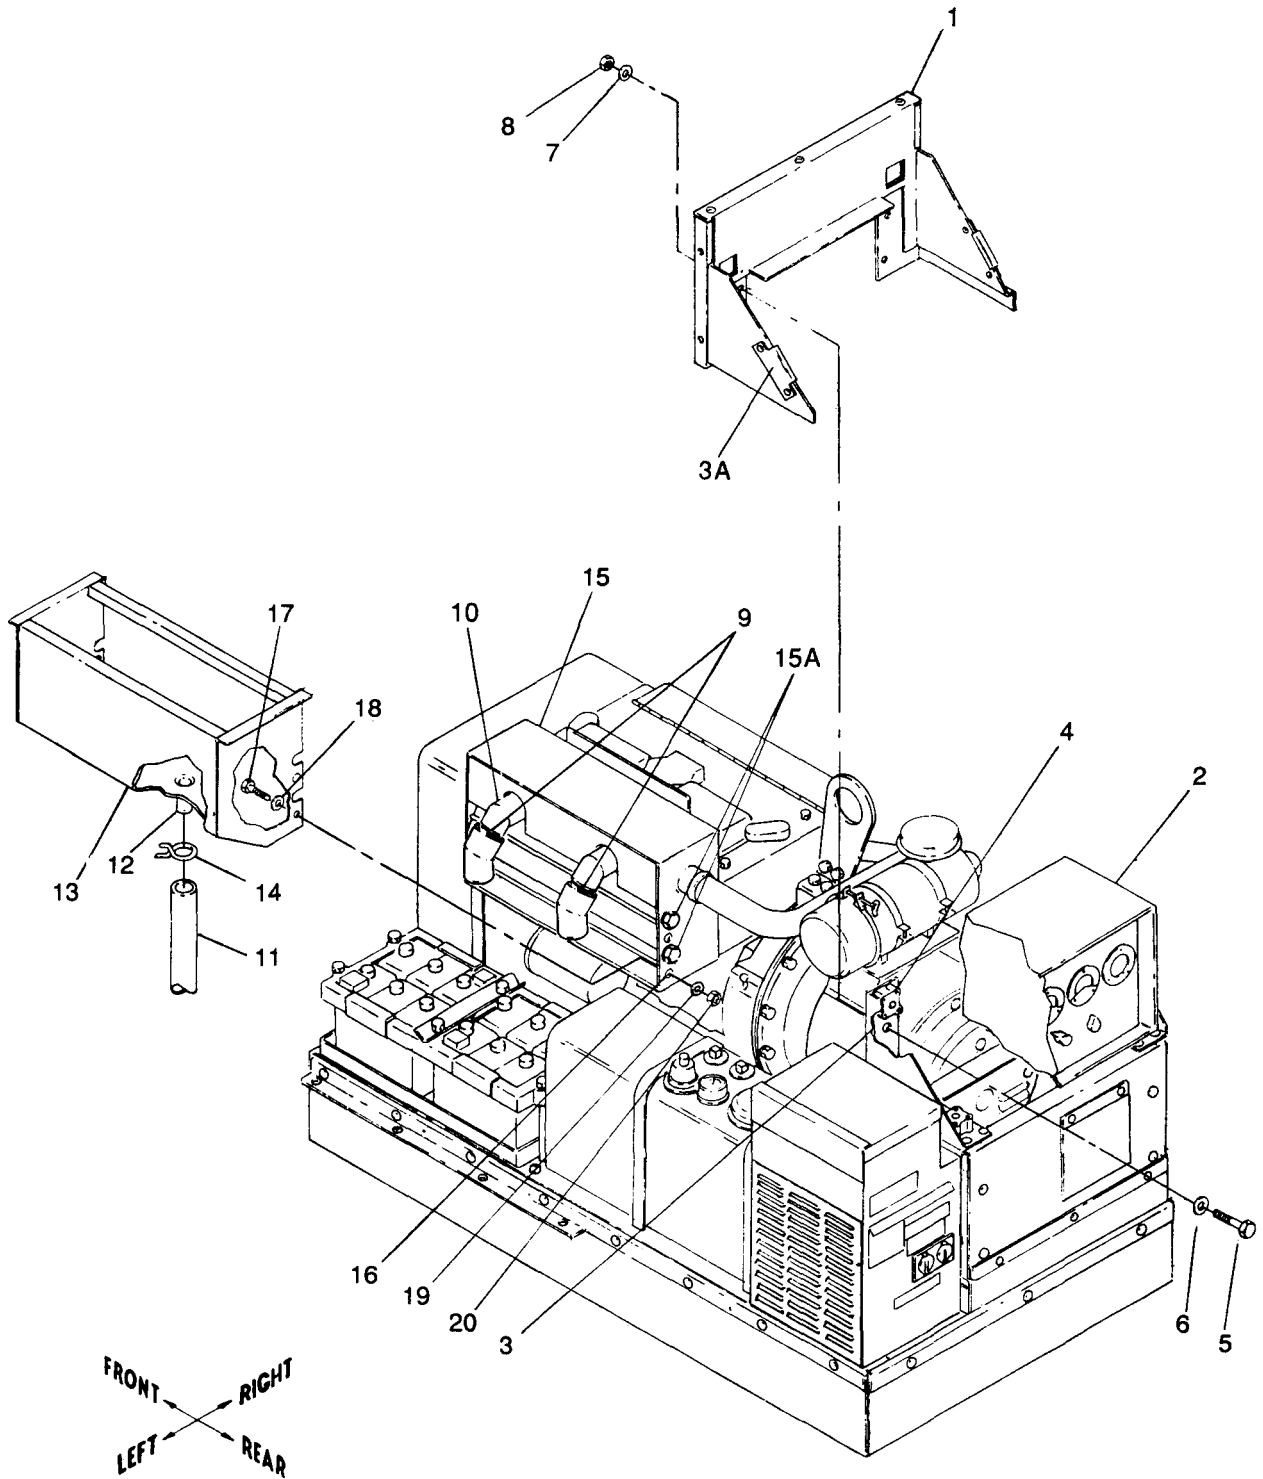

Figure 10-4. Installation of Rear Closure Assembly and Exhaust Plenum Assembly
(2) Refer to figure 10-4 and locate rear closure assembly (1) behind mounting brackets (3). Seat clips (3A) of rear closure assembly (1) over mounting brackets (3), so that rear closure assembly (1) is positioned over vibration mount hardware. When positioned correctly, the rear closure assembly (1) is 1/4 inch higher than top of control cubicle (2). Using rear closure assembly (1) as template, mark and drill four 5/16 inch holes in mounting brackets (3).
(3) Cut a 23 in. length and a 14 in. length of adhesive backed teflon tape (as listed in Table 10-1, item 5). Apply adhesive backed teflon tape to a clean top edge (edge with three holes) and right edge (edge with two holes which will contact right panel assembly) of rear closure assembly (1). Use hand pressure to remove air bubbles. Clear tape from holes.
(4) Install rear closure assembly (1) to control cubicle support (3) with four screws (5), eight washers (6 and 7) and four locknuts (8) (as listed in Table 10-1, item 5).
(5) Torque screws (5) to 16 ±2 ft-lbs dry.
(6) Refer to Operator and Organizational Maintenance Manual, paragraph 3-18, and install air cleaner assembly removed in step e. (1).
(1) Refer to figure 10-4 and install exhaust elbows (9) (as listed in Table 10-1, item 7) to generator exhaust (10). Point elbow openings downward (exhaust down).
(2) Install hose (11) over sleeve (12) at bottom of exhaust plenum (13). Install clamp (14) over hose (11) and sleeve (12).
(3) Install exhaust plenum assembly (13) over exhaust shutter assembly (15) until rear upper channel of plenum is flush with exhaust shutter assembly (15). Screws (15A) in exhaust shutter assembly (15) fit into plenum slots. (There will be 1-7/8 inch over-lap.) Using exhaust plenum assembly (13) as template, mark mounting holes (16) and drill four 5/16 inch holes in exhaust shutter assembly (15).